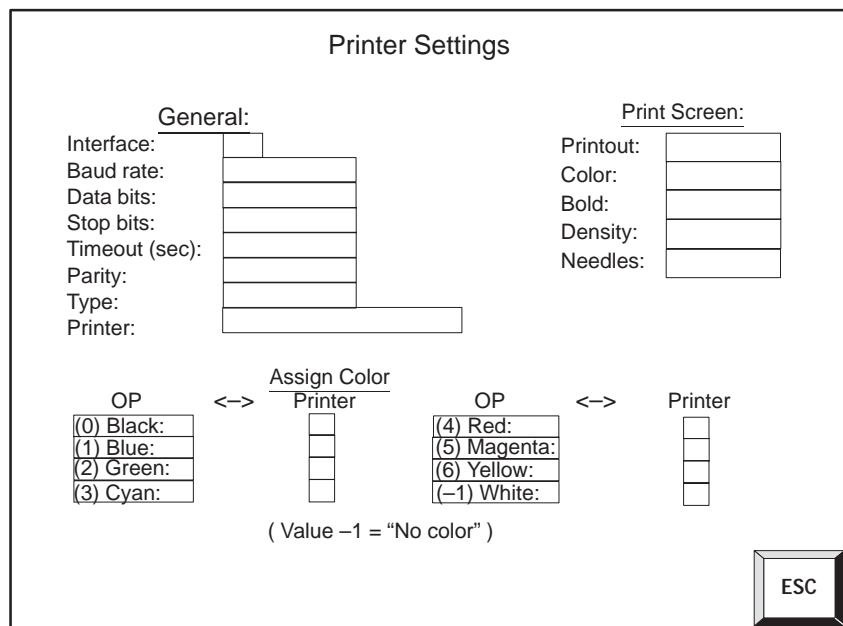

Figure 7-2 Standard screen *Printer Settings* (example TP37 and TP27-10)
- with the TP37 and TP27-10 in standard screen *Printer Settings* (figure 7-2).